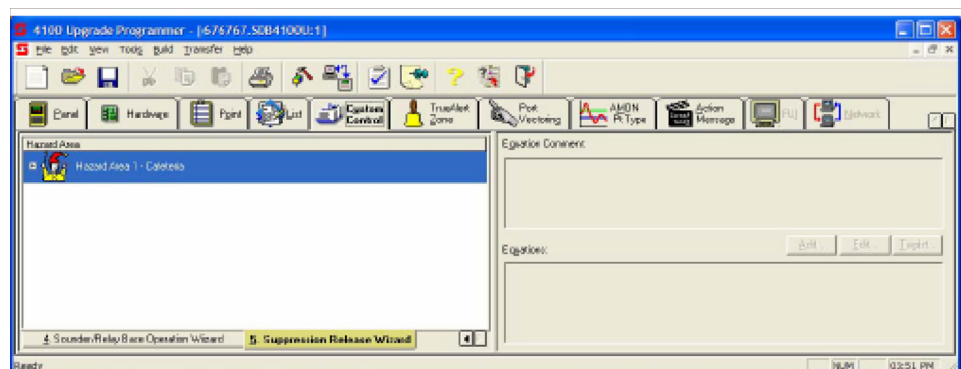

Figure 9-37. Icon Added Following Programming
When you click **Finish**, an icon and label appear in the list of hazard areas shown in Figure 9-37.
1. Right click the name of the hazard area (see Figure 9-37) and select the Delete Hazard Area option. A dialog appears warning you that all Custom Control equations associated with the hazard area will be deleted.
- **Using the Wizard.** Right-click the name of an existing equation (see Figure 9-37) and select Edit Hazard Area. The wizard screens reappear in sequence. Reselect the options for the hazard area as necessary.